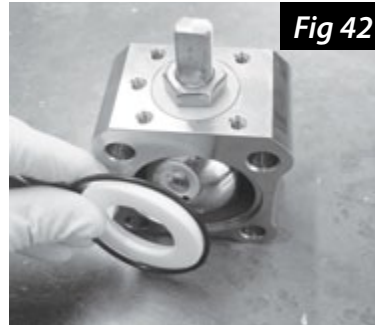

Fig 42
4. Remove and discard the Teflon® seats and body seal o-rings (Fig 42).